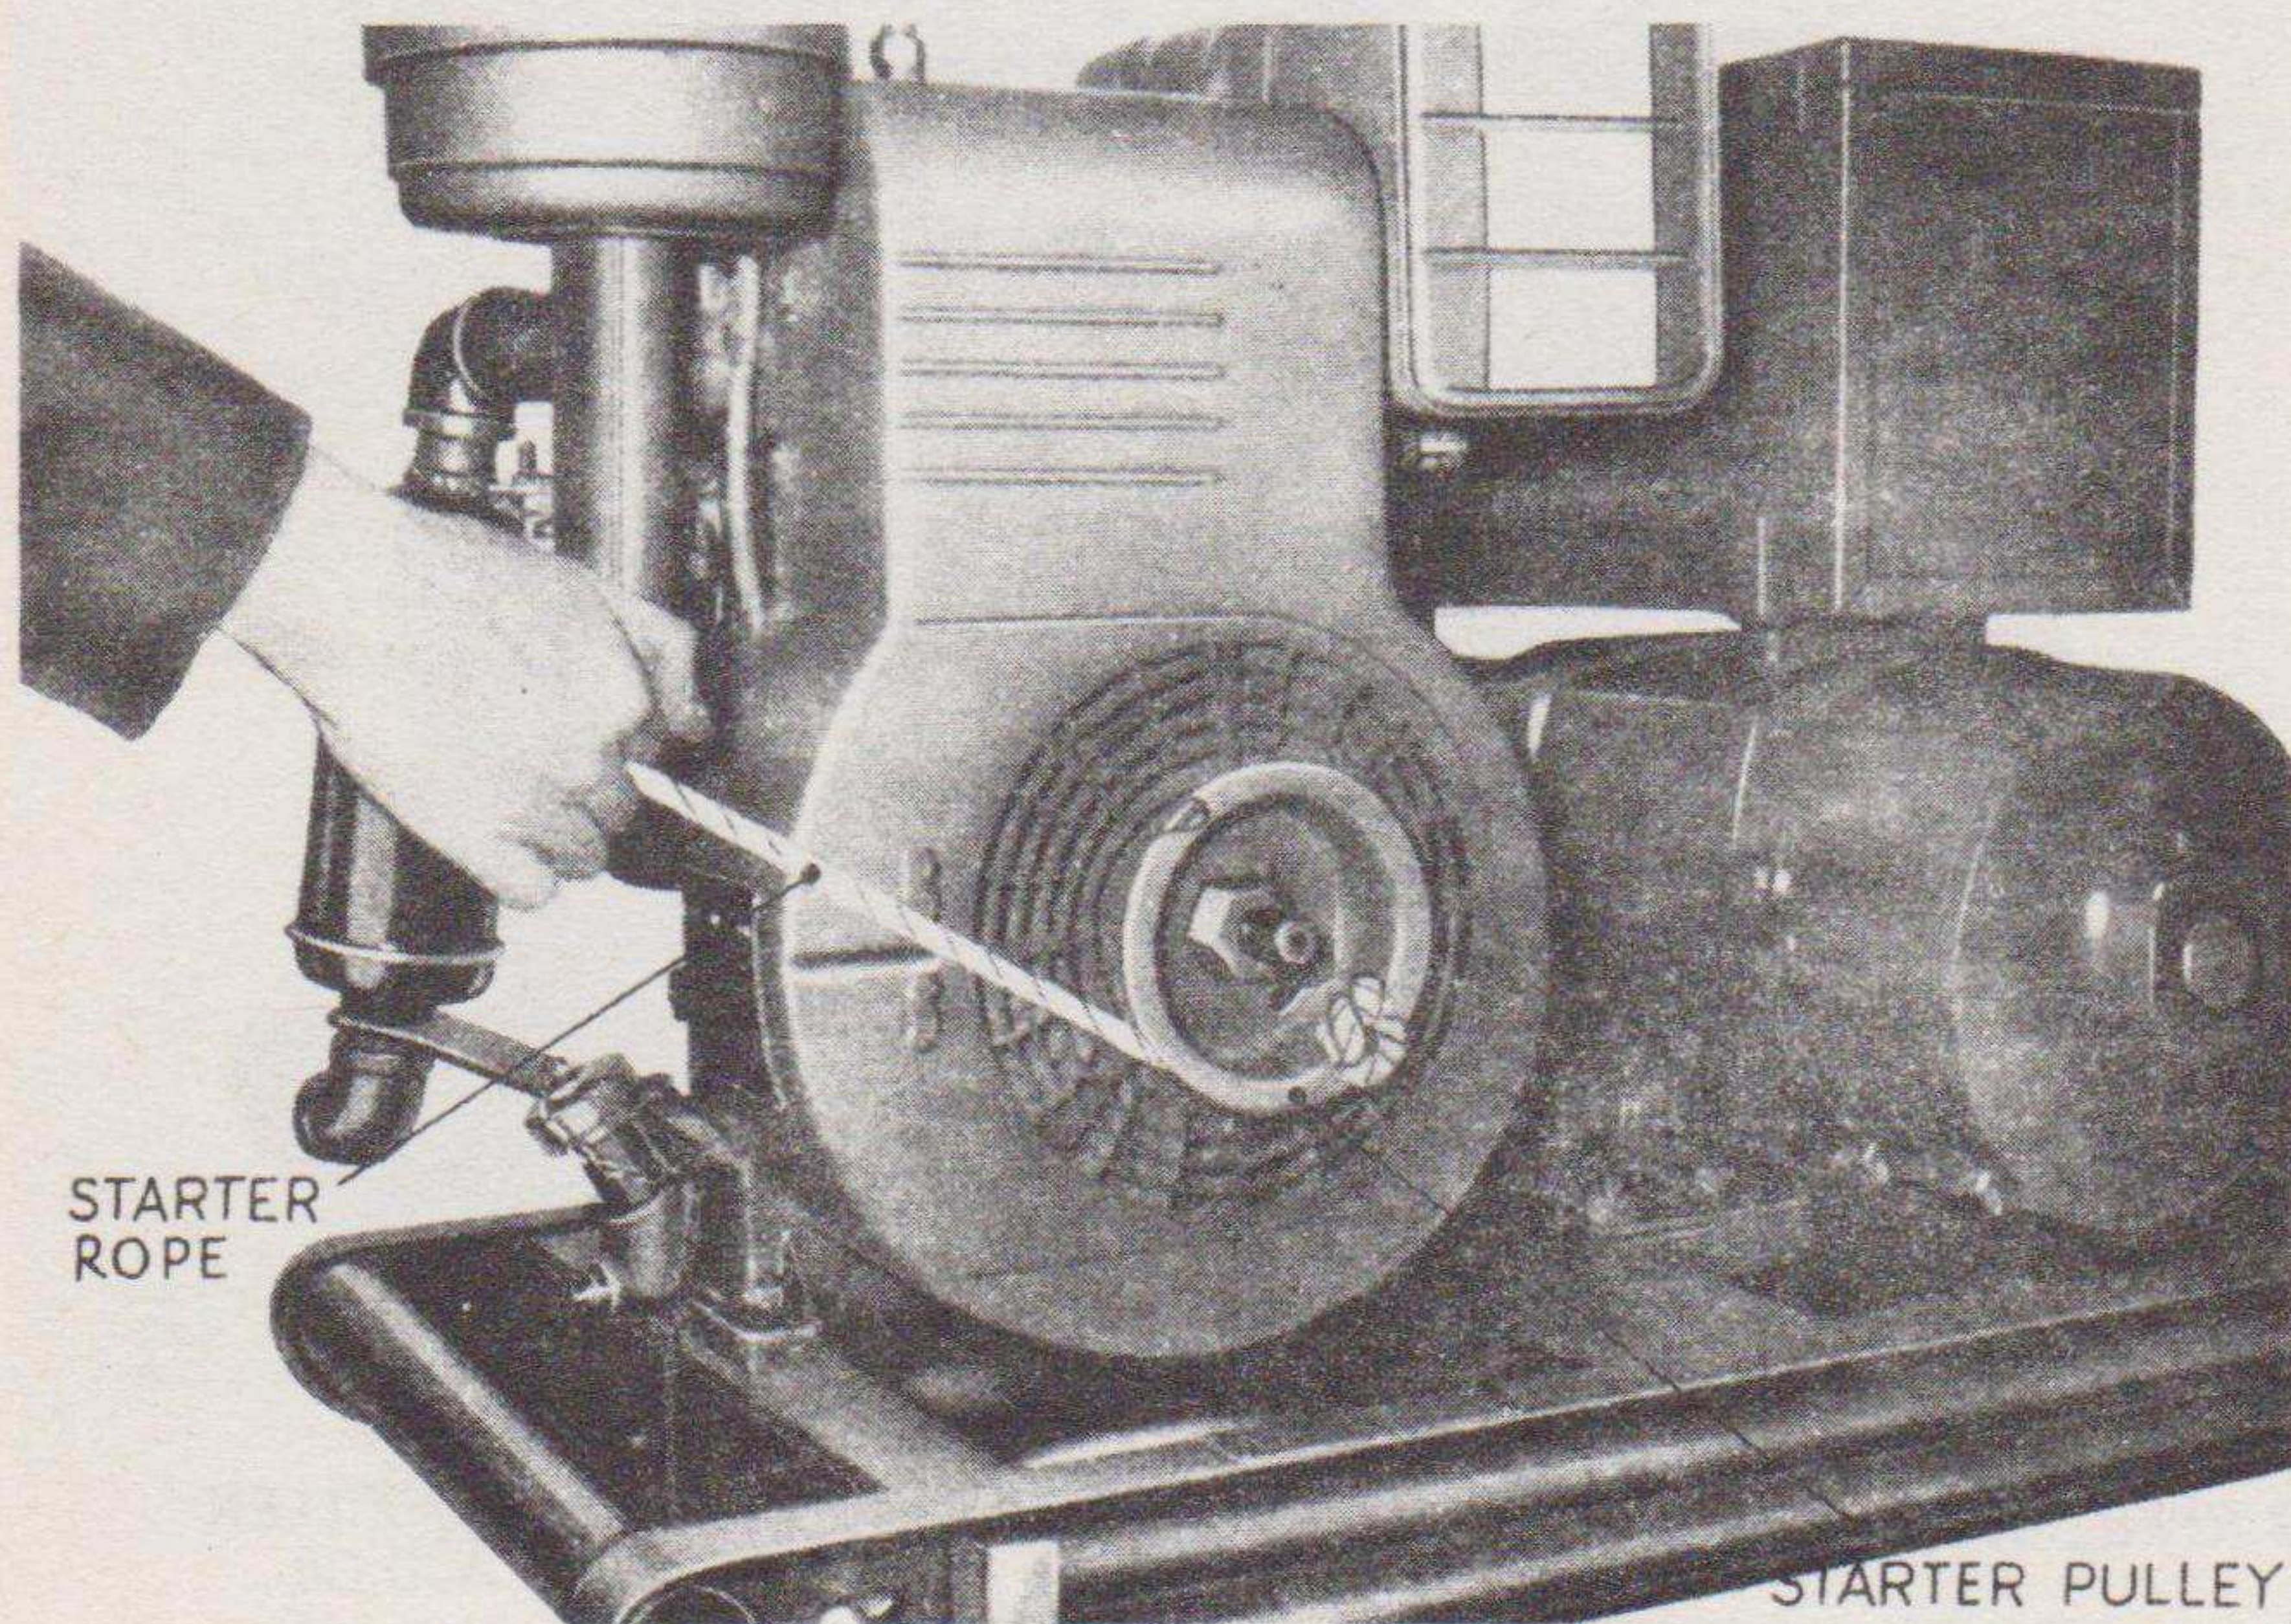

Figure 9. Starting power unit.
a. Place the starting rope in the starting pulley with the knot on the outside of the pulley. Wind the rope clockwise around the pulley (fig. 9).